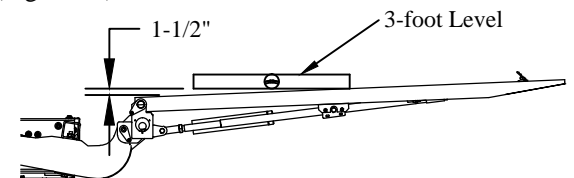

Figure 17: Platform position.
6. **Adjust** the passenger side support arm so that the platform is 1-1/2" from level over a 3-foot length (Figure 17). Adjustment similar to folding cylinder.